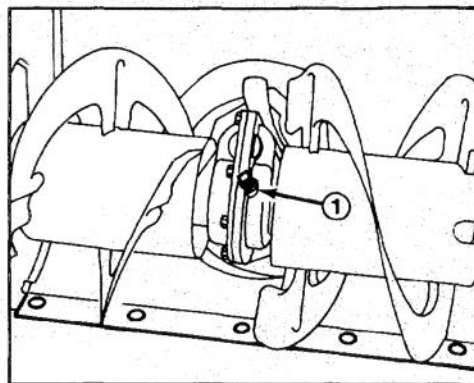

Figure 18
3. Clean area around pipe plug (Fig. 18) so dirt is removed.
4. Put a drain pan below front of auger gear box and remove pipe plug (Fig. 18).
7. Install pipe plug in gear box (Fig. 18).